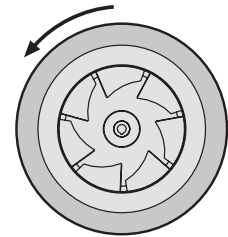

Figure 2
3. Start the fan and shut it off immediately to check rotation of the wheel, see Figure 2.
Wheel Rotation - Direction of wheel rotation is critical. Reversed rotation will result in poor air performance, motor overloading and possible burnout. Rotation should be counterclockwise when viewed from the fan inlet as shown in Figure 2. If wheel rotation is incorrect for single phase power, consult manufacturer. If wheel rotation is incorrect for 3 phase power, swap two of the wiring leads and check rotation again. Fan RPM should be checked and verified with a tachometer.